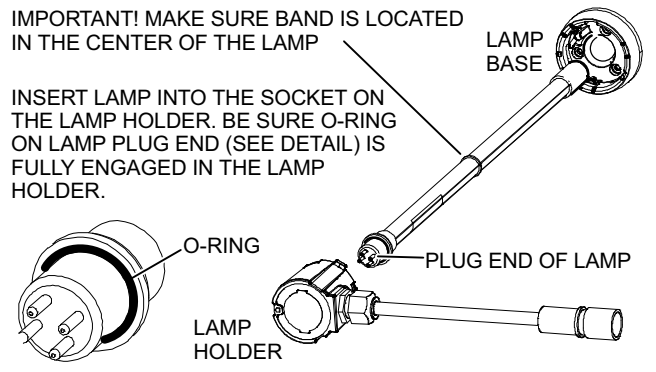

Figure 8. Inserting Lamp into Socket
3. Noting the orientation of the pins for lamp insertion, fully insert the lamp into the lamp holder socket so that the o-ring is fully inside the lamp holder (see figure 8).